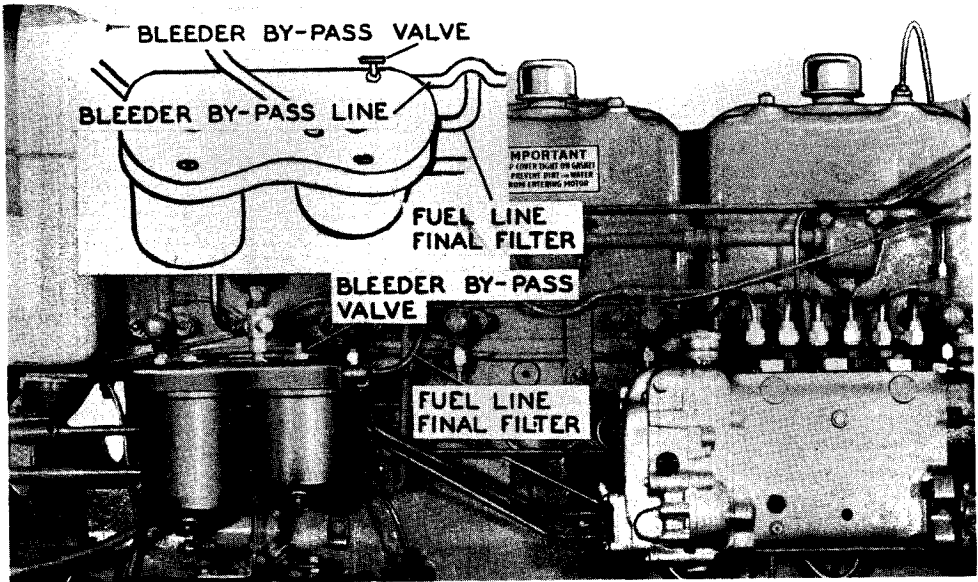

Figure 75
2. Disconnect the 5/16 inch bleeder by-pass line at the by-pass valve, Figure 75. Check the fuel flow. If fuel does not flow freely, the first stage filter is plugged. Reconnect fuel line.
3. Open by-pass valve and disconnect fuel line to final filter, Figure 75. If fuel does not flow freely, the second stage filter is plugged. Reconnect fuel line.